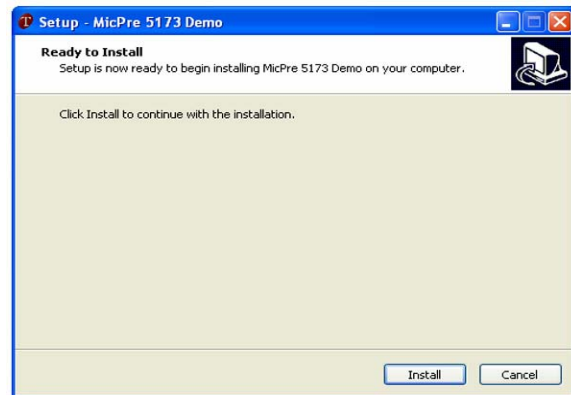

Figure 4. Start the installation process (USB drivers first)
3. Next, you must tell Windows to go ahead and install the Software, as shown in Figure 4. Click INSTALL.